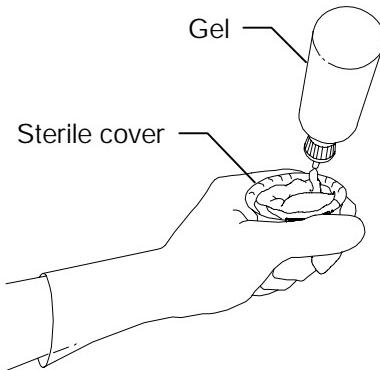
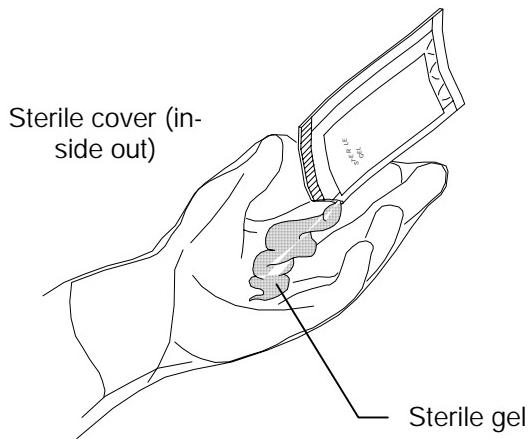

Figure 6-1. Applying Gel to a Cover: Example
Figure 6-2. Applying the Gel to a Cover: Example
2. Refer to the figure of the type of scanhead and cover you are using, and fill the cover with sterile acoustic coupling gel as shown in the appropriate figure (Figure 6-1 and Figure 6-2).